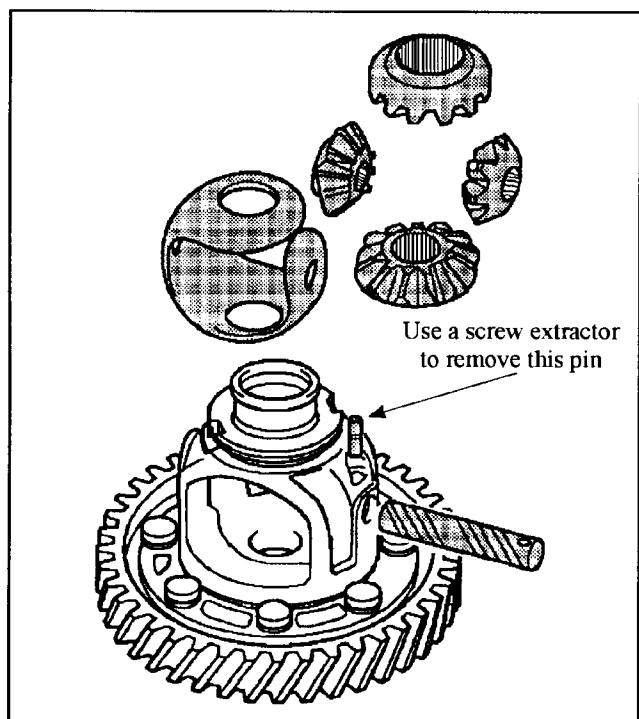

Figure 99
2. Use a screw extractor or similar tool and remove the roll pin that holds the pinion shaft in the differential (See Figure 99)